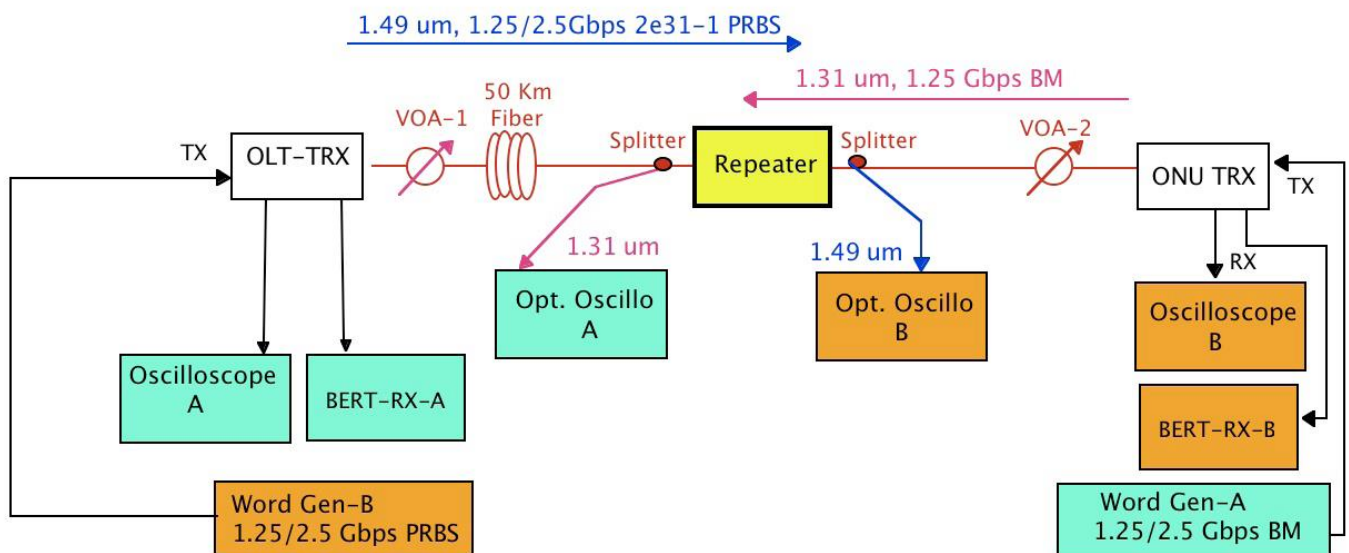

Figure 4: Characterization Setup
Figure 4 illustrates the characterization setup.
Pus-in in Figure 4 is fixed at -20 dBm
(A) Optical Pattern at Optical Oscilloscope B in Fig. 4.
Downstream PRBS TX Optical pattern (Opt. Oscillo B in Figure 4), where 3R configuration is used in GPON Optical Repeater
Figure 5(A): Optical pattern from the repeater in downstream (Opt. Oscillo B in Figure 4). The pattern is 2.5 Gbps 231-1 PRBS (1.49  $\mu$ m), where the distance between the OLT and repeater is 50 km.
Optical Pattern (Opt. Oscill A in Figure 4)
Figure 6(B): Optical pattern from the repeater in upstream (Opt. Oscillo A in Figure 5). The pattern is 1.25 Gbps burst-packet (1.31  $\mu$ m, 1.5 dBm), where the incoming optical power to the repeater from ONU (Pus-in in Figure 4) is set to be -26 dBm (Corresponding optical amplification is 27.5 dB).